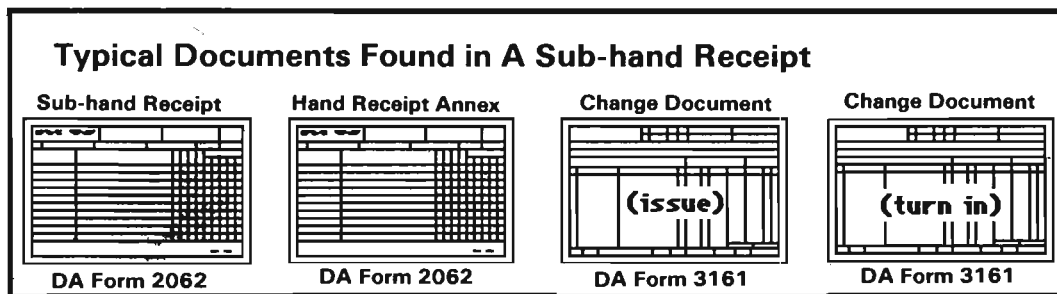

Figure 1
Return to Figure 1 for an example. The commander's concept called for holding the enemy's 1st Battalion at maximum standoff range in EA Blue so that it could be engaged but could not return effective fire. TOWs were assigned to cover the barrier from a position 2,700 meters away, out of the estimated 1,500-meter effective range of the enemy tanks, and ideally out of the Sagger range of the accompanying BMPs that will trail the tanks. Concentrations of indirect fire were planned on the barrier to disrupt breaching attempts.
room normally keeps your sub-hand receipt on a DA Form 2062. The supply sergeant makes two copies of each sub-hand receipt, retains the original, and gives the carbon to the sub-hand receipt holder. It should look something like figures 5-1 and 5-2 of DA Pam 710-2-1 (see *Supply Update*). Other forms that affect your sub-hand receipt and that should be kept with it are in Figure 1.
- Does your sub-hand receipt have the documents listed in figure 1?